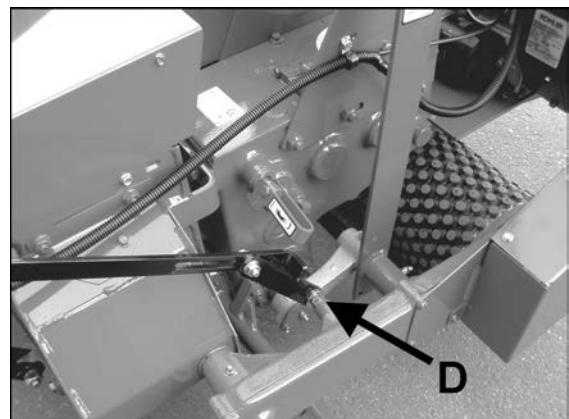

FIGURE 3
7. Attach metering wheel control link. Loosen the jam nut and turn the connecting screw into the casting **D**. Tighten the jam nut to secure. The adjuster links should move freely after installation. (Figure 3)